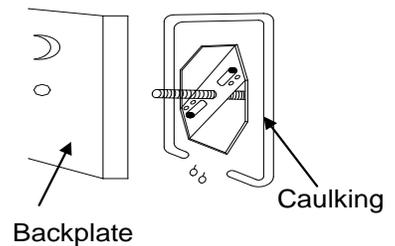

Fig.4
Fixture cage (I) and panel (F) can be adjusted as Fig.4 showed.